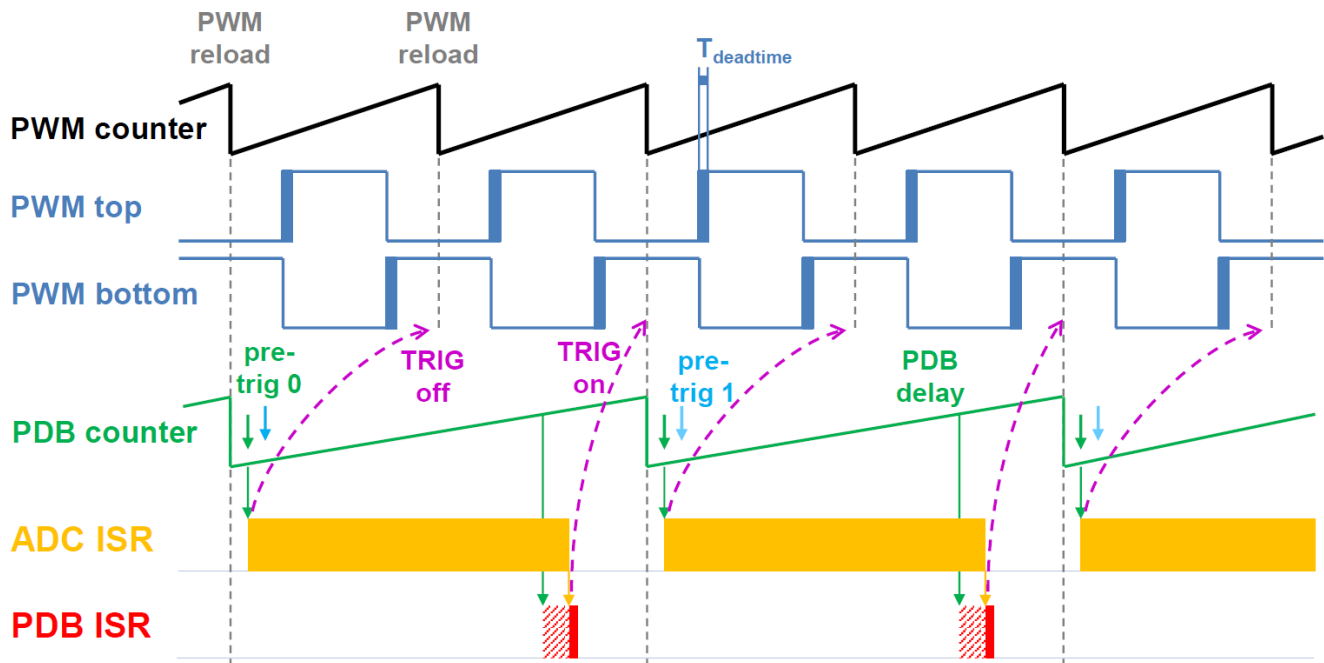

Figure 29. Hardware timing and synchronization on KE18F
A correct and precise timing is crucial in motor-control applications. The motor-control-dedicated peripherals handle the timing and synchronization on the hardware layer. The timing diagram is shown in Figure 29:
- The PDB Delay interrupt is enabled. This interrupt is generated when the PDB_IDLY is reached. This interrupt enables the FTM_TRIG (see Figure 29).